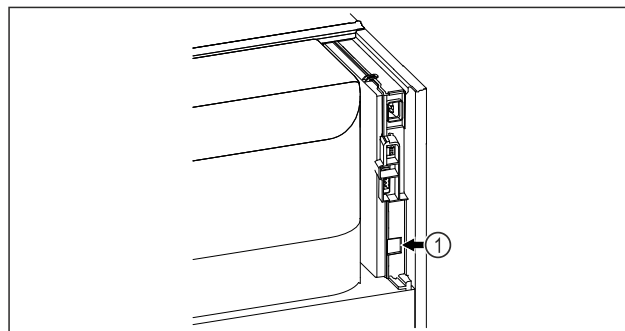

Fig. 61
- SmartModule Fig. 61 (1) is in use.